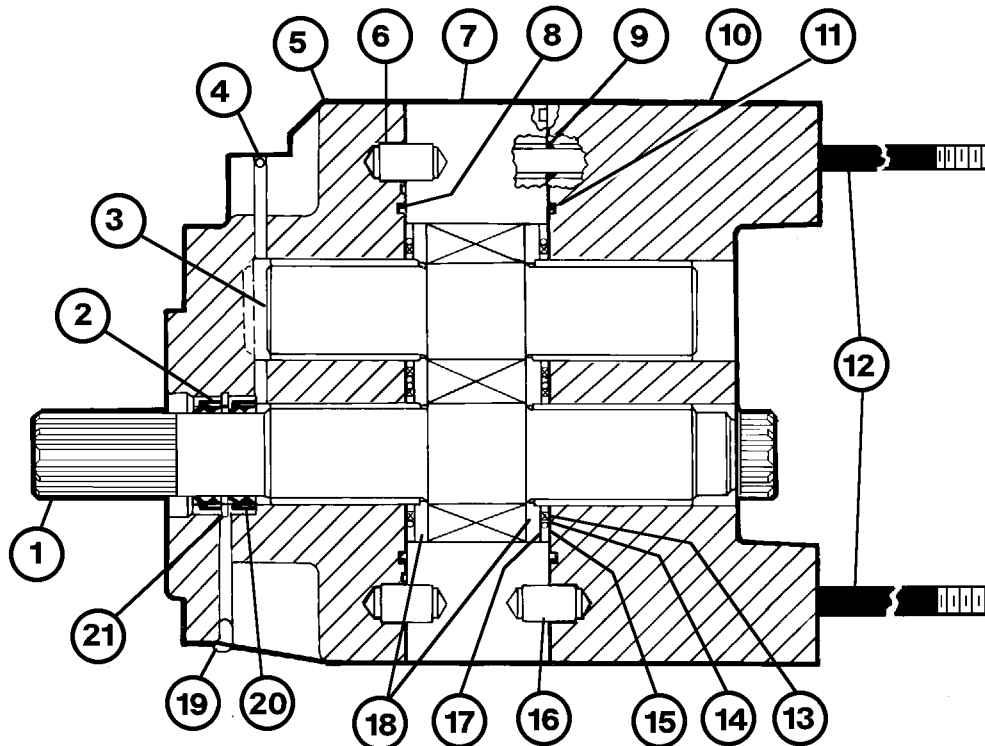

FIGURE 3-6. HOIST PUMP DISASSEMBLY (Front Section)
10. Remove bearing plate (10, Figure 3-6). If the bearing plate is stuck, tap lightly with a plastic hammer to loosen it. Remove O-rings (9) and (11).
11. Remove steel rings (13), backup ring (14), O-ring and retainer (15), and isolation plate (17). Remove dowels (16) if damaged or if replacement of bearing plate (10) is necessary.
12. Unscrew thru studs (12) and remove them. Remove flange (5). If the flange is stuck, tap the flange lightly with a plastic hammer to loosen. Remove O-ring (8). Remove dowels (6) if damaged or if replacement of flange (5) or gear plate (7) is necessary.
13. Remove the steel rings, backup ring, O-ring and retainer. Remove drive gear (1) and idler (3) from gear plate (7). Remove both pressure plates (18).